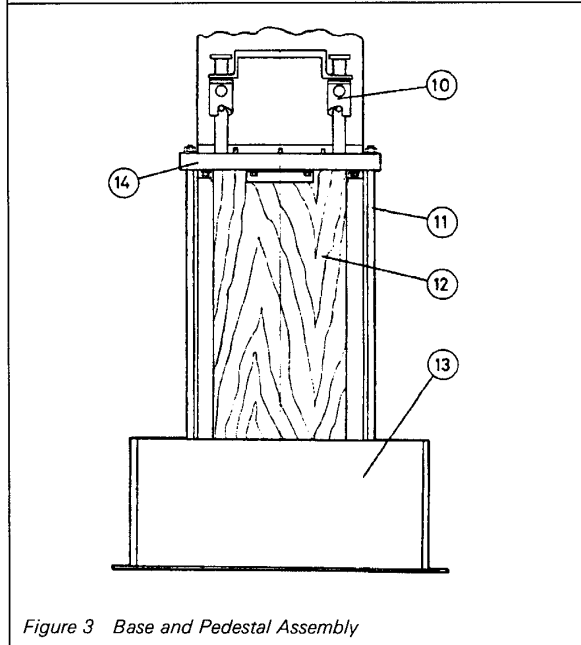

Figure 3 Base and Pedestal Assembly
- 3.2 Base and pedestal assembly (Figure 3)
- 7.2 Periodically (according to workload) see Figure 3.